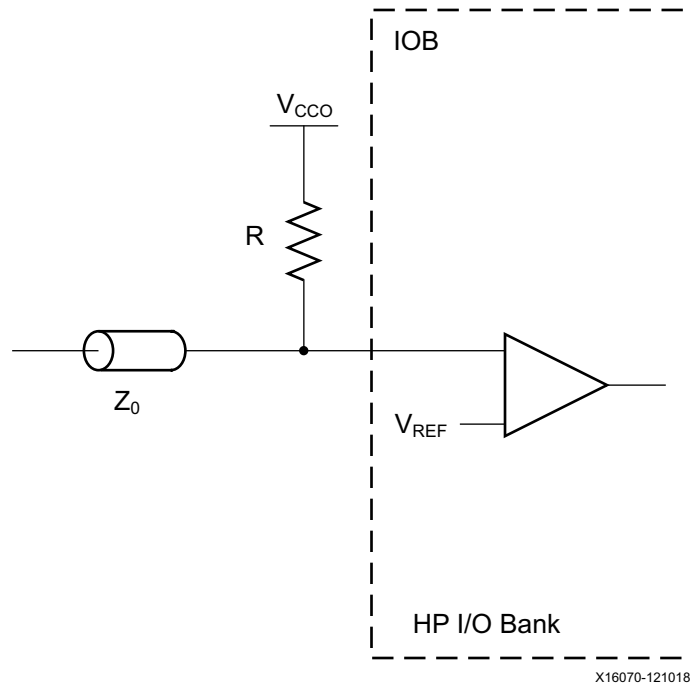

Figure 1-12: **Input Termination to V_{CC0} without DCI (where $R = Z_0$)**
Some I/O standards (POD10, POD12, HSUL_12, and DIFF_HSUL_12) require an input termination resistance (R) to a V_{TT} voltage of V_{CC0} (see Figure 1-12).